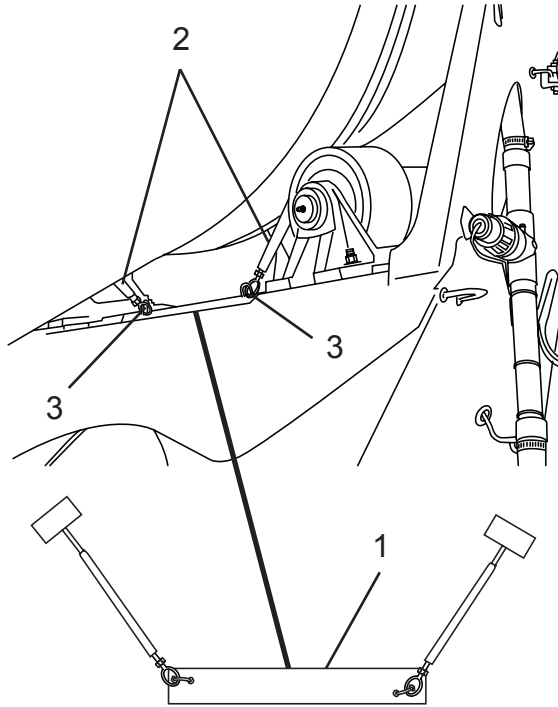

Figure 6
14. Place the dual turnbuckle wedge assembly base (Figure 6, Item 1) on the rear pedestal. Make sure the wedge assembly base has a flat, clean surface. Extend the turnbuckles (Figure 6, Item 2) so the wedges are firmly in place between the drum roller track and rollers. Evenly snug up the turnbuckles one turn or more as needed to prevent possible drum rotation.
15. Tighten the turnbuckle jam nuts (Figure 6, Item 3) to secure the wedges in place.